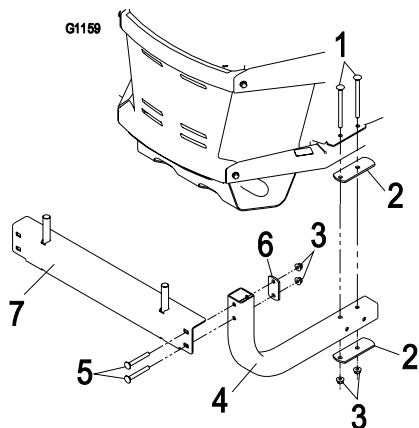

Figure 5
2. Install the two 3/8-16 x 5 carriage bolts (item 1) through the holes on the frame as shown in Figure 5. Place two stiffeners (item 2) on the top and bottom of the bagger tube (item 4) and install on carriage bolts. Fasten with two nyloc nuts (item 3); leave loose to aid installation. Repeat procedure for other side.
3. Align the holes in the bagger tube (item 4) with the bagger hitch (item 7). Fasten with hardware and stiffener as shown in Figure 5; leave loose to aid in installation.